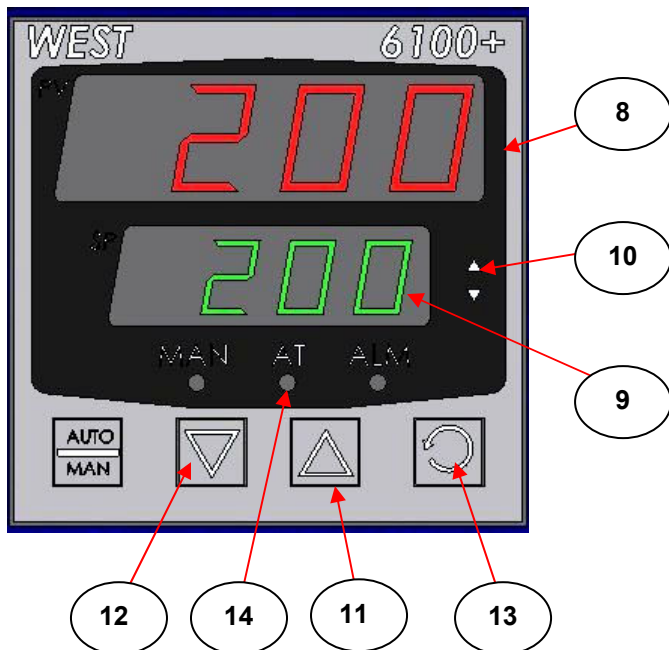

Fig 2. Temperature Controller Digital Display
- 4.5 When power is supplied to the 4000 Series™ Temperature Controller and the accessory is also connected, the controller undergoes a self-test routine. The routine follows the procedure below as indicated on the digital display of the temperature controller (see Fig 2).